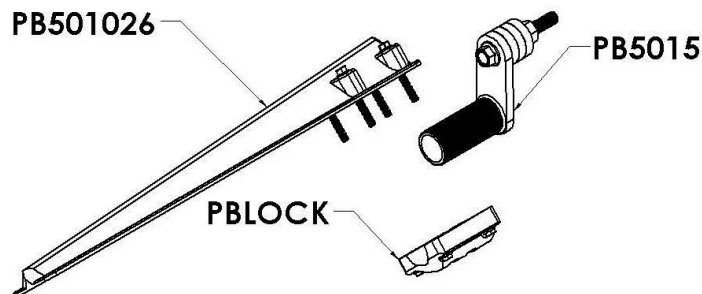

Figure 6
- A. Use four 5/16" x 3" bolts to attach the bracket (part number PB501026) and the backing block (part number PBLOCK) to the steel swivel (part number PB5015). See Figure 6. **Make sure the pipe end of the PB5015 is fully engaged into the bracket.**